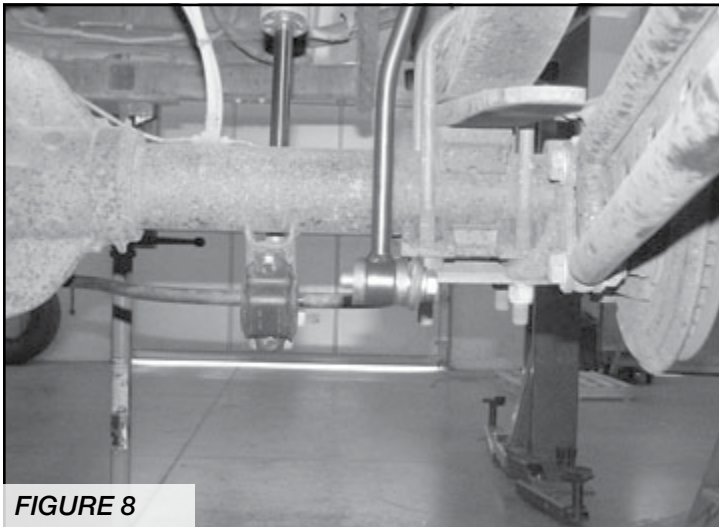

FIGURE 8
7. Mount the lower end of the link to the sway bar one ½-13 x 2-1/2 bolt, two ½" washers and one c lock nut. Torque to 90ft-lbs. **SEE FIGURE 8**